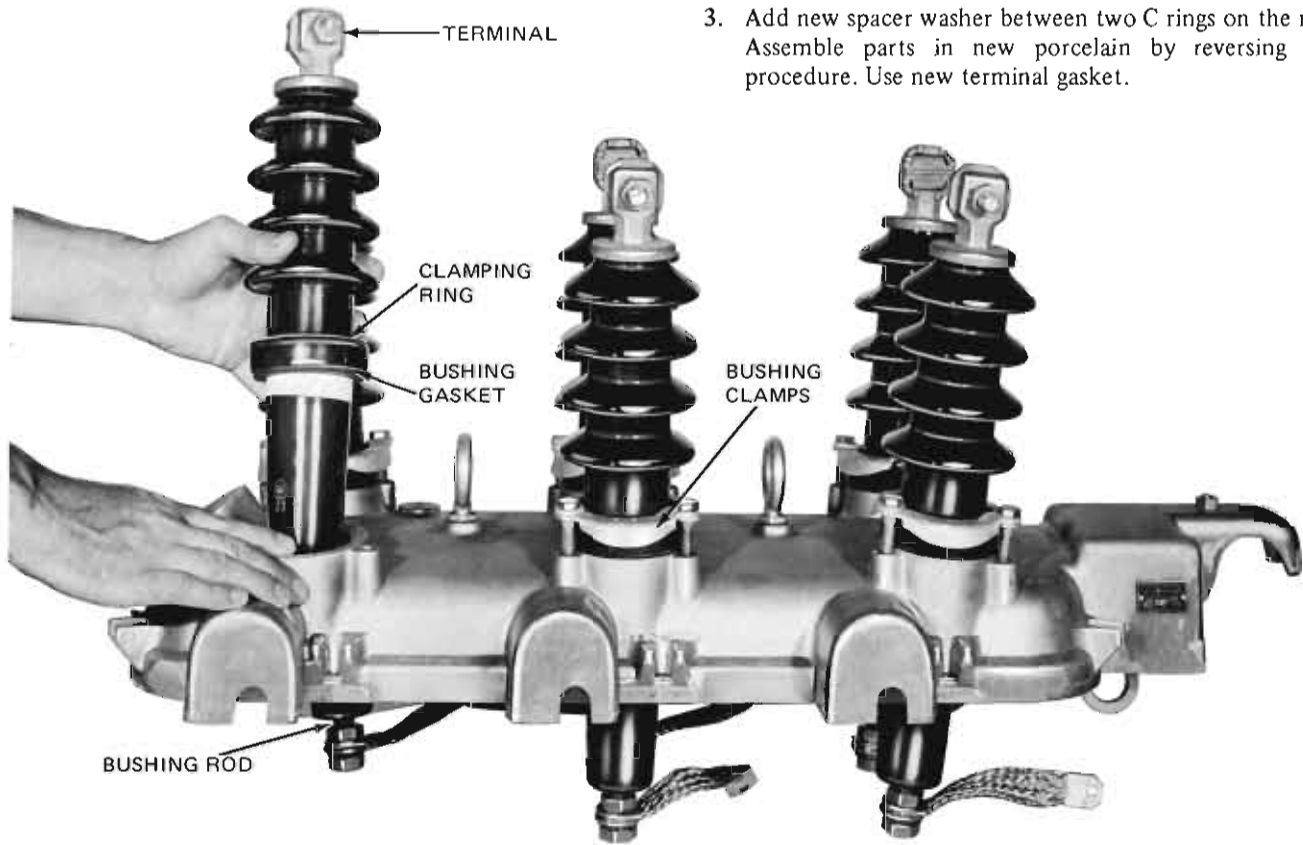

Figure 23
1. Remove three hex cap screws that hold bushing clamps. Lift out entire assembly as demonstrated in Figure 23.